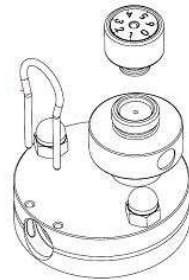

fig. 12
- Remove air regulation screw and locking device (fig. 12).